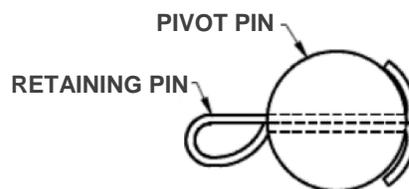

Figure 4
3. Make sure all pivot pins are in position and that all retaining pins are assembled correctly (Figure 4).